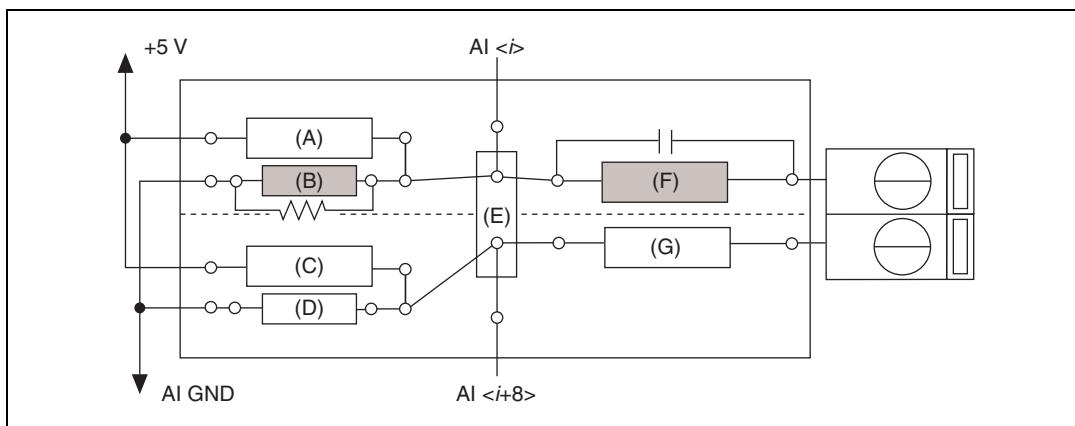

Figure 4-31. SCB-68 Circuit Diagram for Single-Ended Analog Input Highpass Filter on AI
- Single-ended analog input highpass filter**—To build a single-ended lowpass filter, refer to Figure 4-31. Add the resistor to position B or D, depending on the AI channel you are using. Add the capacitor to position F or G, depending on the AI channel you are using. Refer to Table 4-1 for component positions for all analog input channels.